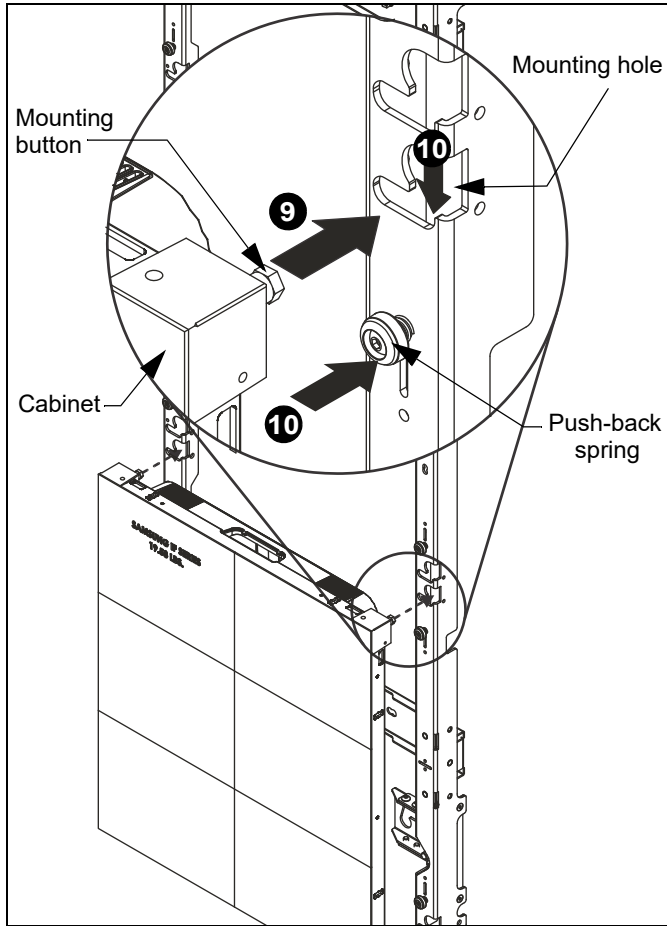

Figure 18
10. When the cabinet meets the push-back springs, apply a light and even pressure against the push-back springs and lower cabinet ensuring that mounting buttons are securely seated in the four mounting holes. (See Figure 18)